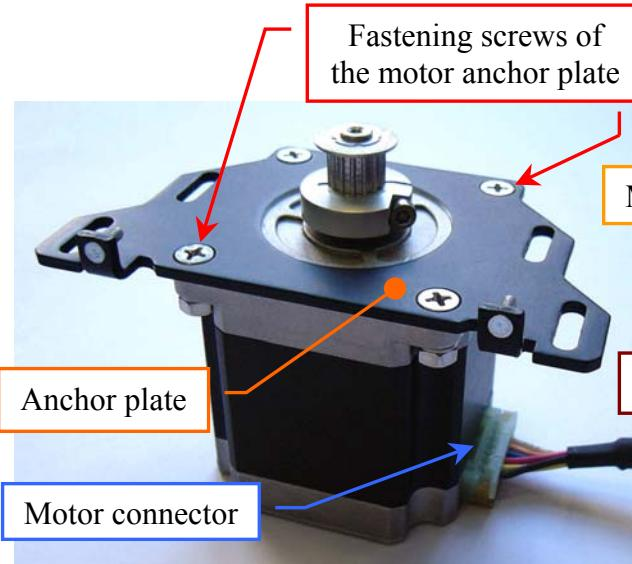

Fig. 83 – Reagents Plate Motor anchor plate
5. Unscrew the four fastening screws of the Reagents Plate Motor anchor plate (**Fig. 83**) and take out the anchor plate from the motor.
9. Position the anchor plate on the upper plane of the new motor as showed in Fig. 83 and screw its four fastening screws.